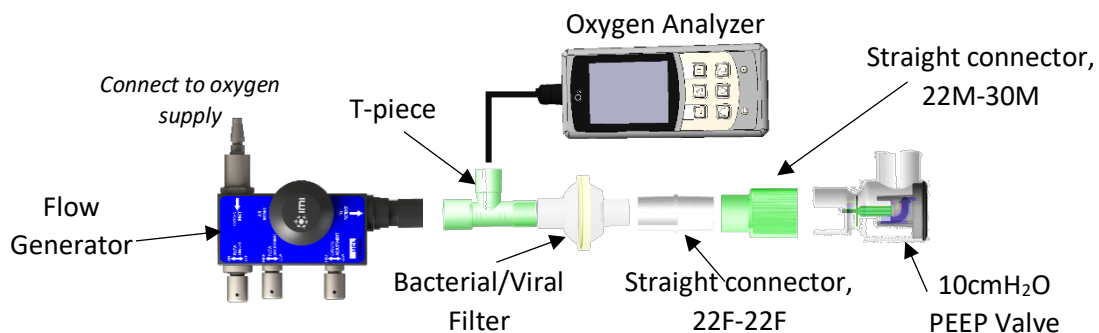

Fig. 18. Setup for Annual check for Flow Generator Performance
1. Set-up a simple pass-off test circuit as shown in Fig. 18.